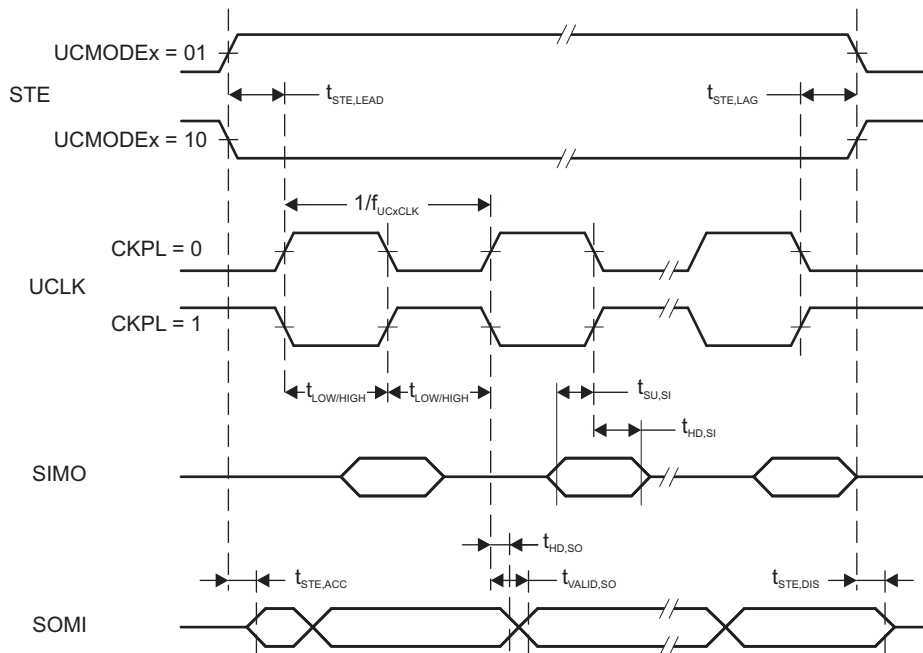

Figure 5-15. SPI Slave Mode, CKPH = 0
- (2) Specifies the time to drive the next valid data to the SOMI output after the output changing UCLK clock edge. See the timing diagrams in Figure 5-15 and Figure 5-16.
- (3) Specifies how long data on the SOMI output is valid after the output changing UCLK clock edge. See the timing diagrams in Figure 5-15 and Figure 5-16.